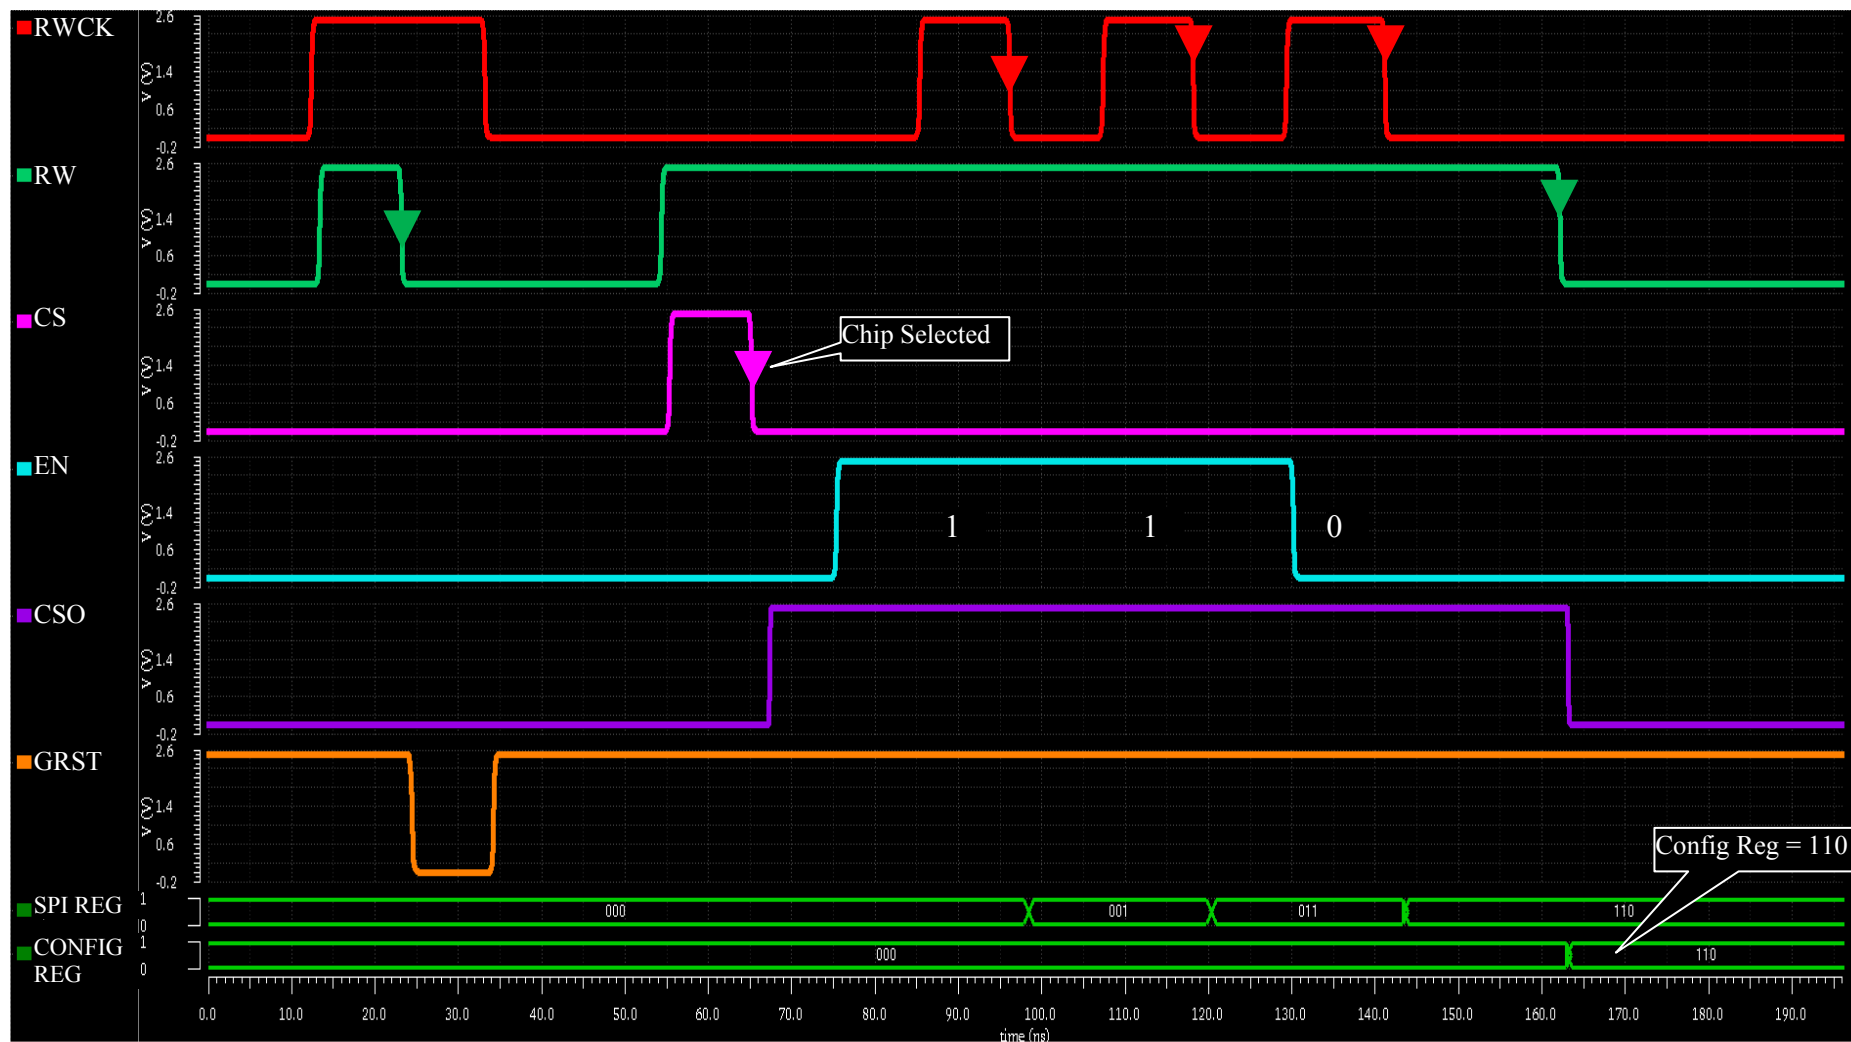

Fig. 1 Timing diagram for (a) generating a global reset, (b) selecting the chip for configuration, and (c) writing 110 to the configuration register.
- When in configuration mode, the 432-bit shift register (see Table 2a-2c) is loaded MSB first by shifting data into the ASIC on EN at the falling edge of each RWCK. The shift register is loaded after 432 clock cycles and at the falling edge of RW, the data is latched from the shift register into the configuration register as shown in Fig. 1.
- A global reset is generated with the falling edge of RW when RWCK is idling high. The global reset is cleared on by toggling RWCK low as shown in Fig. 1.
- A peak detector reset of 130 ns is generated on the rising edge of enable (EN)